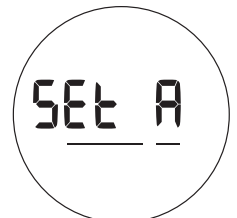

Fig. 39 - SET A GROUP
- > A + S (2 sec), while viewing Set F, will access Set A (Fig. 39).